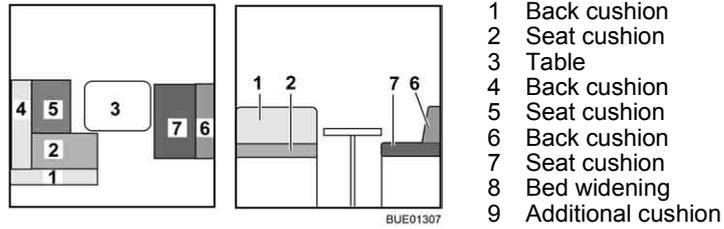

Fig. 158 Prior to conversion
- Convert the table (Fig. 158,3) to a bed foundation (see section 6.11).
- Remove the back cushion (Fig. 158,1) and lay it aside.